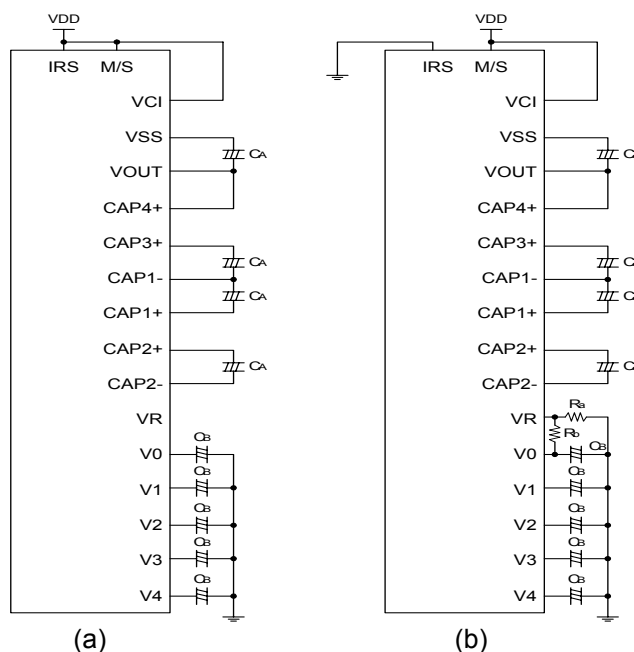

Fig. 11-(a~b) Reference Circuit Examples
Figure 11 shows the reference circuit examples:
1. When all of the step-up circuit, voltage regulating circuit, V/F circuit, and the voltage regulator internal resistor are used, as shown in Fig 11-(a).
2. When all of the step-up circuit, voltage regulating circuit, V/F circuit, and the voltage regulator internal resistor are not used, as shown in Fig 11-(b).
3. When the voltage regulator circuit, V/F circuit and the V0 voltage regulator internal resistor are used, as shown in Fig 11-(c).
4. When the voltage regulator circuit and V/F circuit are used, and the V0 voltage regulator internal resistor is not used, as shown in Fig 11-(d).
5. When the V/F circuit is used, as shown in Fig 11-(e).
6. When any internal LCD power supply circuit is not used, as shown in Fig 11-(f).